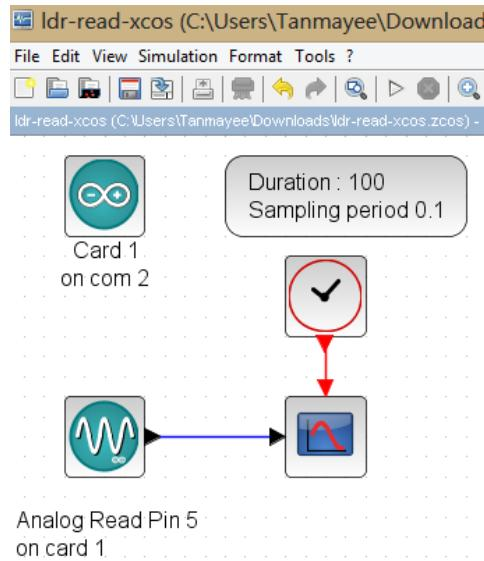

Figure 6.3: Xcos diagram to read LDR values. This is what one sees when `origin/user-code/ldr/scilab/ldr-read.zcos`, see Footnote 2 on page 2, is invoked.
1. The Xcos diagram in Fig. 6.3 performs data acquisition from analog pin 5 and displays the read values on the scope. When the file required for this experiment is invoked, one gets the GUI as in Fig. 6.3. In the caption of this figure, one can see where to locate the file.